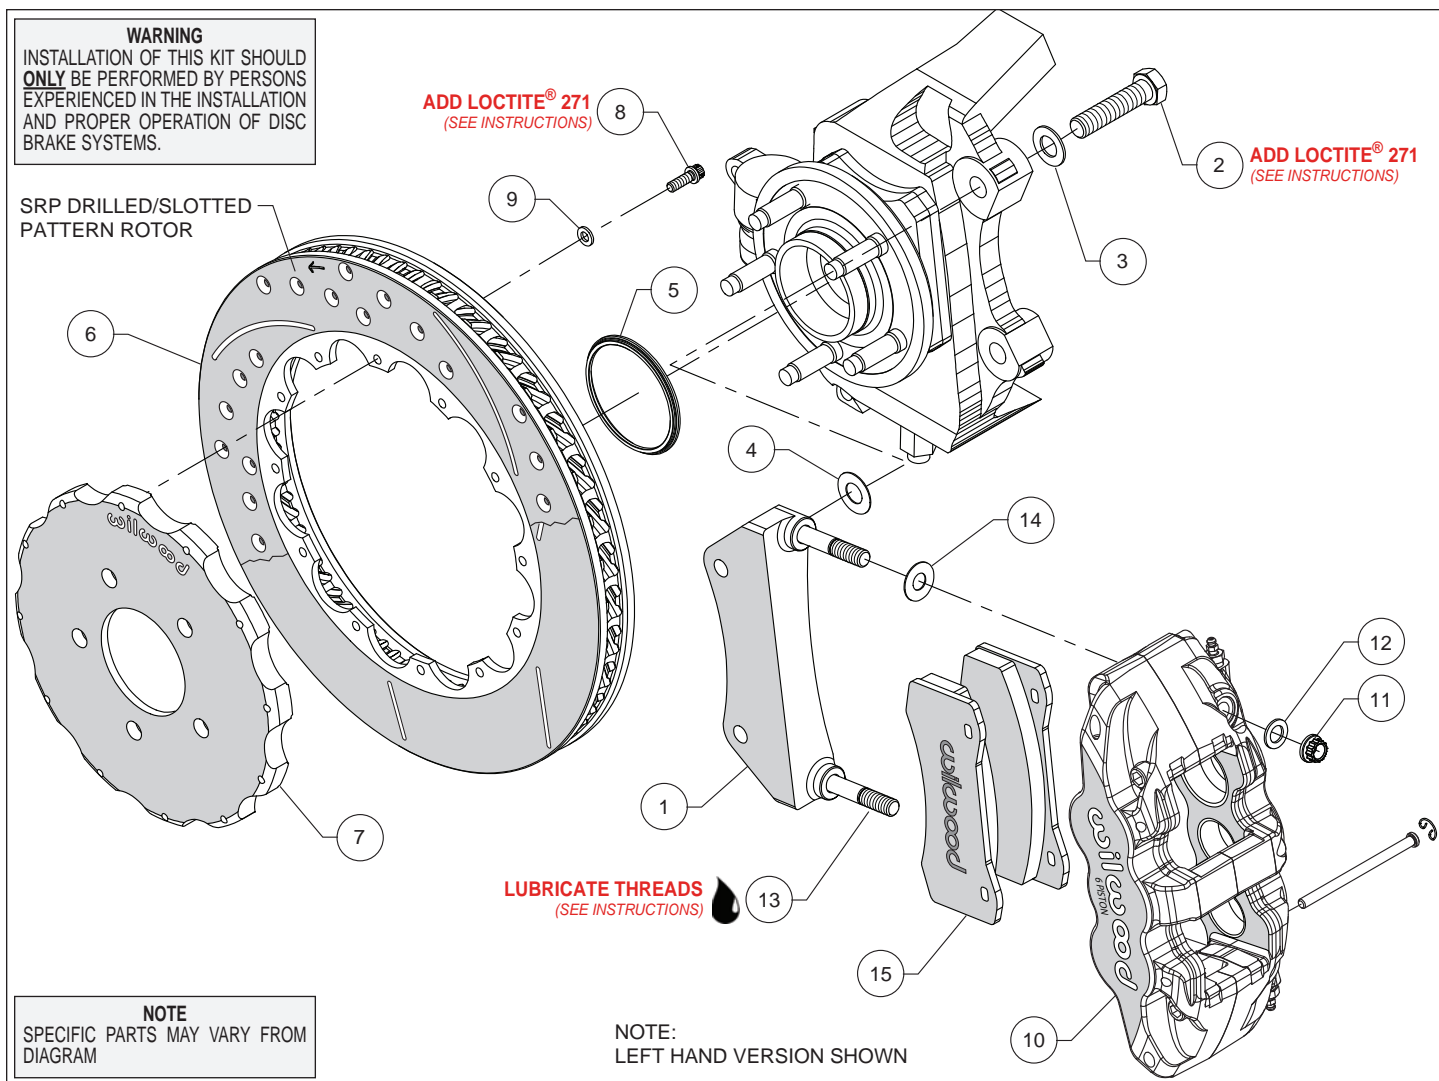
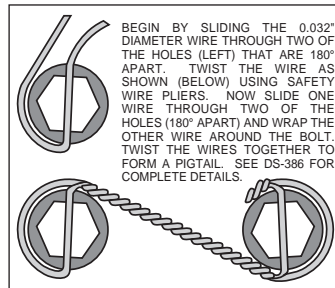

Figure 1. Typical Installation Configuration
Figure 3. Safety Wire Diagram
**Assembly Instructions** (numbers in parenthesis refer to the parts list and Figure 1 on the preceding pages):
- The caliper mount bracket (1) should initially be installed with clean, dry threads on the mounting bolts. Orient the bracket as shown in Figure 1 and Photo 1, and install using bolts (2) and washers (3). Initially place one .029 thick shim (4) on each bolt between the bracket and upright, Figure 1. Temporarily tighten the mounting bolts. **NOTE:** *The bracket must fit squarely against the mounting points on the upright.* Inspect for interference from casting irregularities, machining ridges, burrs, etc. Later, after the caliper alignment has been checked, the mount bolts will be secured using red *Loctite*® 271.
- Orient the rotor (6) and the hat (7) as shown in Figure 1 and Photo 2. Attach rotor to hat using bolts (8) and washers (9). Using an alternating sequence, apply red *Loctite*® 271 to the threads, and torque to 155 **in-lbs**. For an added measure of security, the bolts may be safety wired using standard 0.032 inch diameter stainless steel safety wire as shown in Figure 3. Please refer to Wilwood's data sheet DS-386 (available at [www.wilwood.com/Pdf/DataSheets/ds386.pdf](http://www.wilwood.com/Pdf/DataSheets/ds386.pdf)) for complete safety wire installation instructions.
- **NOTE:** *This kit contains distinct right and left hand calipers that must be mounted in a specific direction, as described below.* Lubricate the caliper mounting studs (13) with lightweight oil. Initially place one .030" thick shim (14) on each stud between the caliper and the bracket, as shown in Figure 1 and Photo 5. Mount the caliper (10) onto the bracket (1) using lock nuts (11) and washers (12), Figure 1. Ensure that the caliper is mounted so the largest pistons are at the rotor exit end of the caliper, in relation to the direction of rotor rotation. Temporarily tighten the lock nuts and view the rotor through the top opening of the caliper. The rotor should be centered in the caliper, Photo 6. If not, adjust by adding or subtracting shims (4) between the bracket and the upright. Always use the same amount of shims on each of the two mounting bolts. Once the caliper alignment is correct, remove the bracket mounting bolts (2) one at a time, apply red *Loctite*® 271 to the threads, and torque to 77 ft-lb.
- Remove the two pad retaining pins from the caliper (10) by carefully popping out the pin retaining clips and sliding out the pins. Insert the brake pads (15) into the caliper from the bottom, Figure 1 and Photo 7. With the friction material facing the rotor, secure the brake pads in place with the pad retaining pins and clips, Photo 8. Reinstall the caliper onto the caliper mounting bracket and temporarily tighten the lock nuts (11). Check that the top of the brake pad is flush with the outside diameter of the rotor, Photo 9. If not, adjust by adding or subtracting shims (14) between the caliper and the bracket. After the caliper pad height is set, torque the caliper lock nuts (11) to 47 ft-lb.